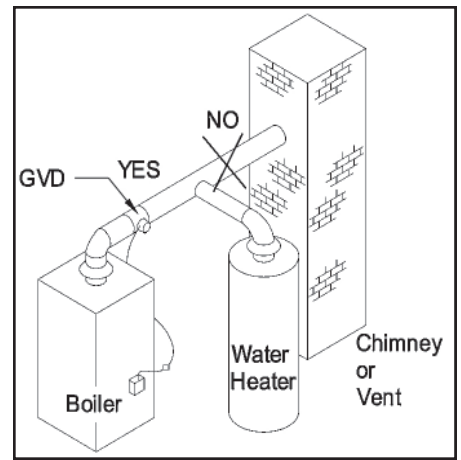

Figure 4
WARNING: Install the automatic vent damper to service only the single appliance for which it is intended. (See Figure 4) If improperly installed a hazardous condition, such as an explosion or carbon monoxide poisoning, could result.
2. Locate a position in the vent pipe connector between the draft hood and chimney for the damper device. (See Figure 4)